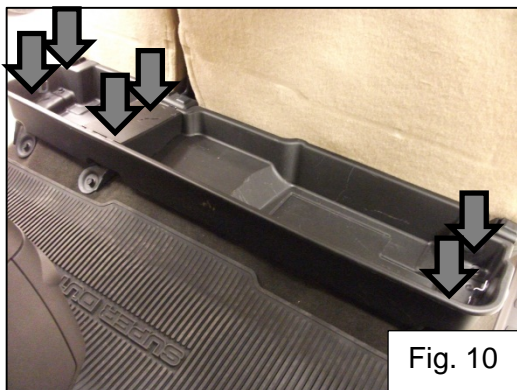

Fig. 10
12. Remove the six bolts securing the storage tray under the rear seat, disconnect wiring and remove the tray. Fig. 10 (not all vehicles are equipped with storage tray)